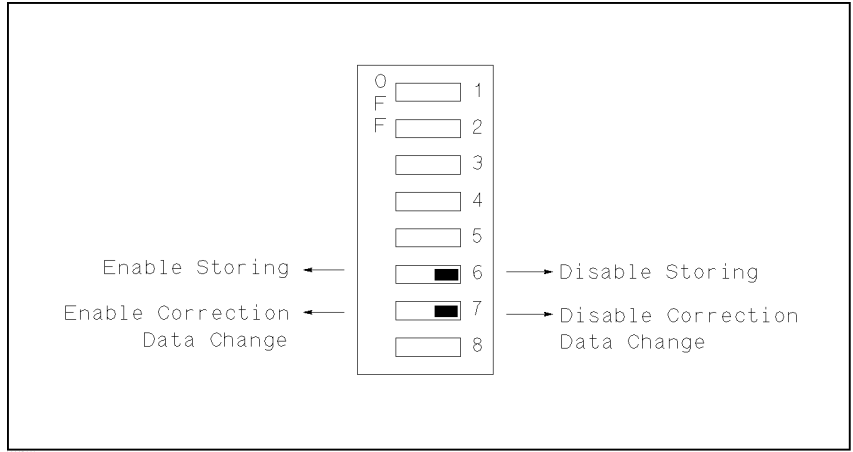

Figure E-2. Write Protection Switch
8. Set A7S3-6 to the right-most position (ON) to disable 4284A's STORE function. Set A7S3-6 to the left-most position (OFF) to enable storing. Refer to Figure E-2.
9. Set A7S3-7 to the right-most position (ON) to disable to change all of the correction settings on the *CORRECTION* page. Set A7S3-7 to the left-most position (OFF) to enable to change all of the correction settings on the *CORRECTION* page. Refer to Figure E-2.